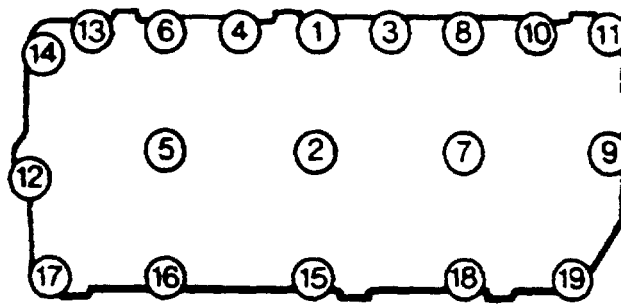

FIGURE 3-16. Crankcase Door Fastener Tightening Sequence
- c. Position new gasket (8) and crankcase door (7) on crankcase and secure with eleven bolts (3), four nuts (5) and two standoff studs (6) with nineteen washers (4). Tighten bolts (3) to 78 in-lbs (8.8 Nm) in sequence shown in FIGURE 3-16.